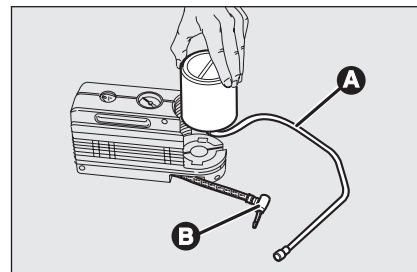

fig. 17
- ☐ disconnect connection **B**-**fig. 17**;